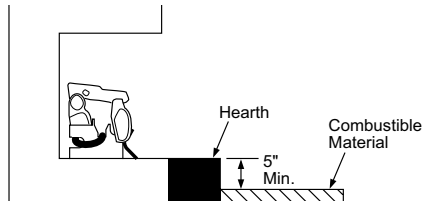

Figure 9 - Minimum Fireplace Clearances Above Combustible Flooring
- B. If combustible materials are less than 14" to the fireplace, you must install appliance at least 5" above the top surface of combustible flooring including tile and carpet (*see Figure 9*).